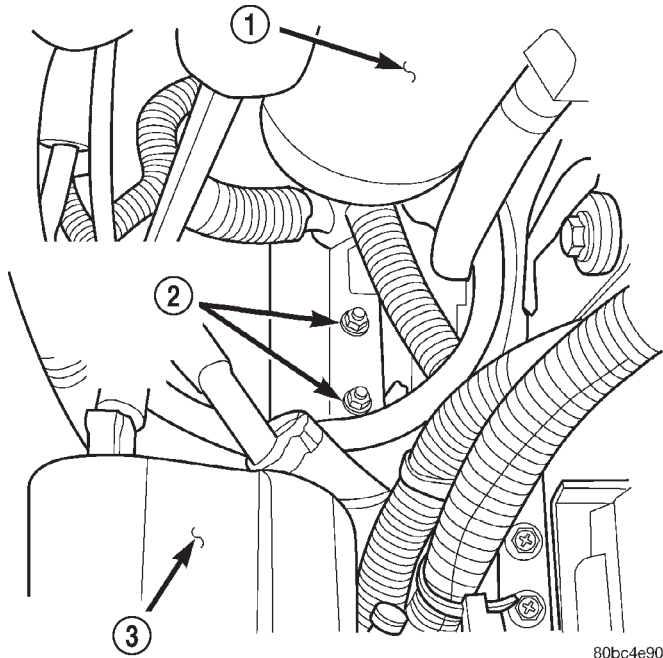

Fig. 13 Wire Harness Mounting Bracket
(49) Disconnect the speed control servo vacuum supply hose from the engine mounted steel vacuum source line.
(50) Disconnect the fuel supply and return hoses from the engine assembly.
(51) Remove the wire harness mounting bracket retaining nuts from the left engine mount (Fig. 13).